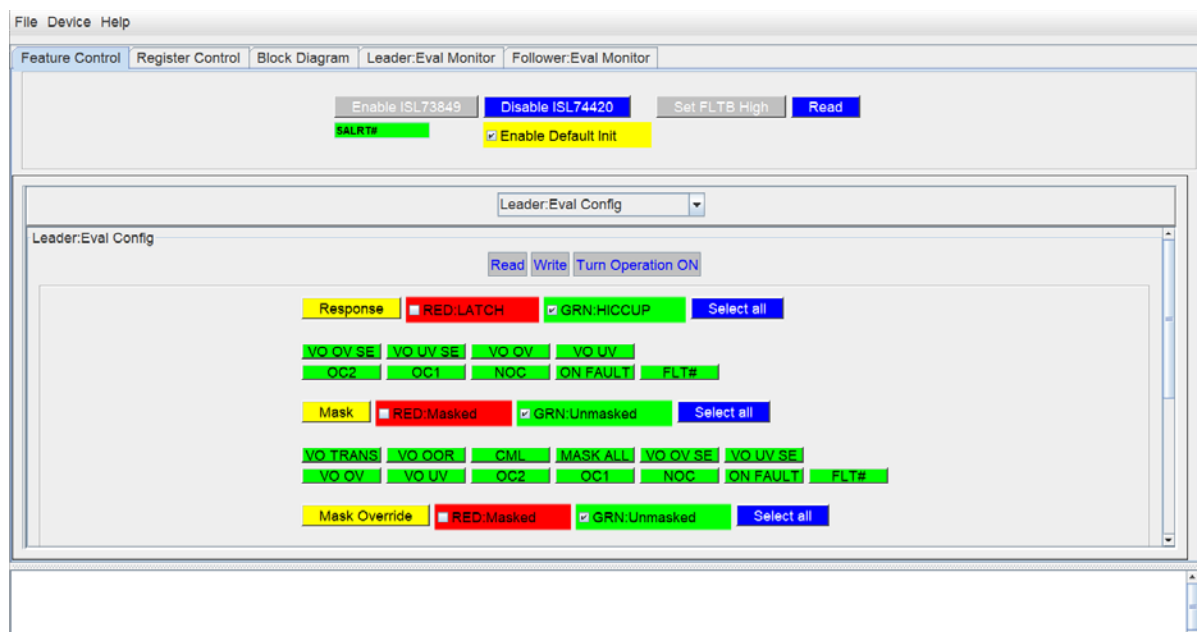

Figure 7. ISL73849SLHEV2Z4 4-Phase GUI
21. The 4-Phase GUI opens as shown in Figure 7. By default, the **Feature Control** tab is selected. The OPERATION, FAULT_RESPONSE, FAULT_MASK, SALERT_MASK_OVERRIDE, VOUT_OV_LIMIT, VOUT_UV_LIMIT, EN_PWM_PH, SS_CONFIG, OC_TH, VOUT_TRANSITION_RATE, VOUT_COMMAND, and SET_Follower Leader registers are all available for programming in this window. To view the corresponding registers for the Follower, open the drop-down and select **Follower:Eval Config**.